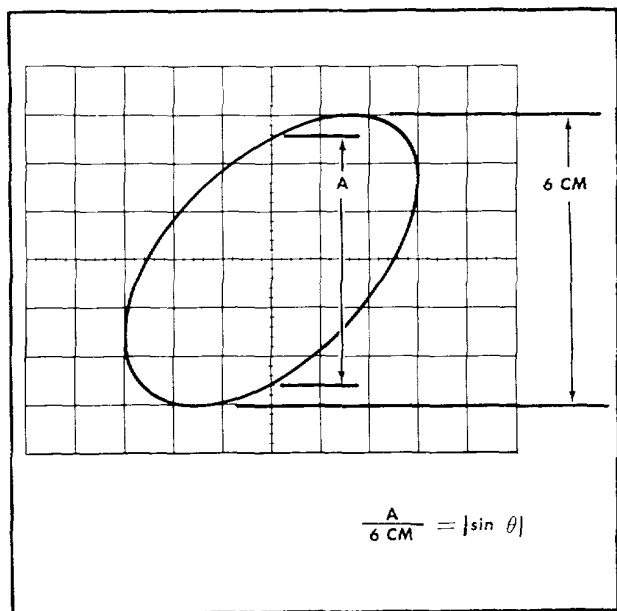

Fig. 4-1. X-Y method of calculating phase difference (θ) of two sine waves.
8. If the input signals are sine waves which produce an ellipse, Fig. 4-1 shows a method of calculating the phase difference between the two signals. If the display appears as a diagonal straight line, the two sine waves are either in phase or